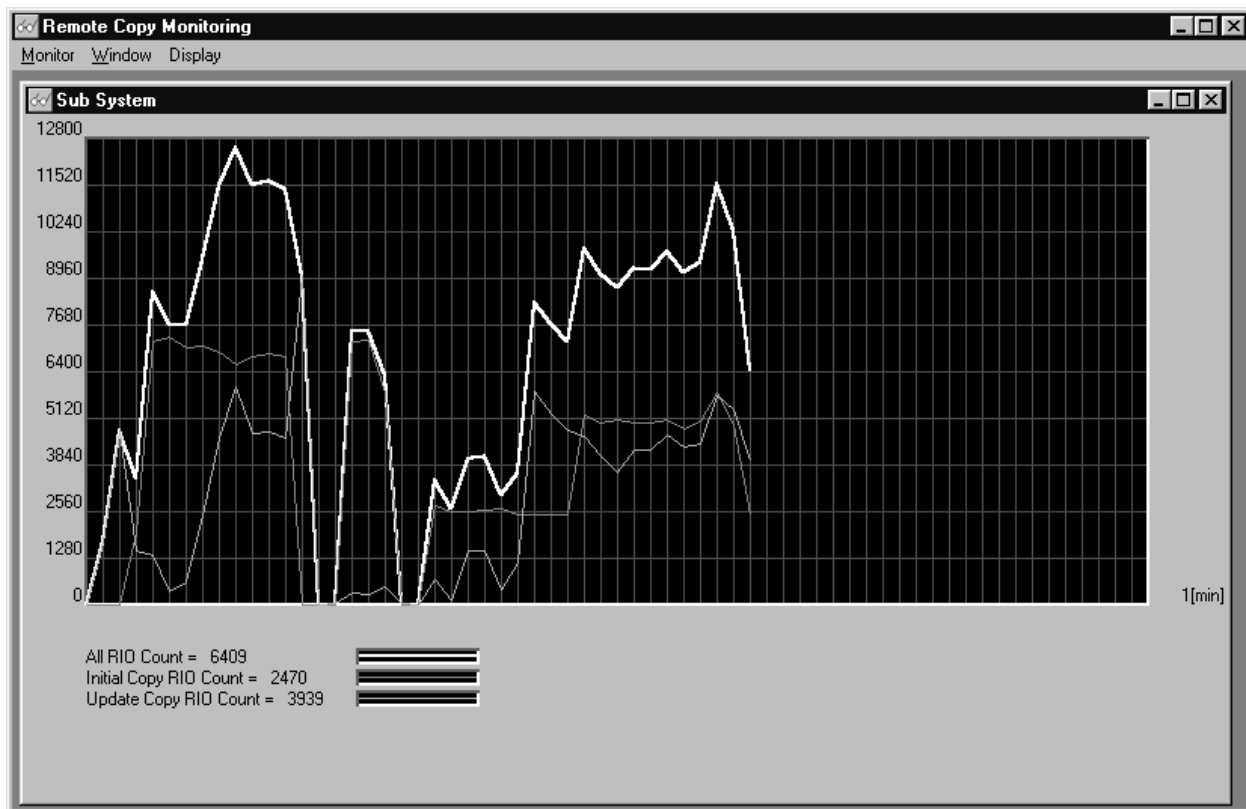

Figure 4.6 Remote Copy Monitoring Panel
The Remote Copy Monitoring panel (see Figure 4.6) displays the user-selected remote copy I/O statistics for either all LDEVs or the selected LDEVs in the connected 9900 subsystem. The Remote Copy Monitoring panel is accessed from the HORC Main Control panel (**Usage...** button). Remote copy monitoring is available to all Remote Console users.
2. On the HORC Main Control panel, select the **Usage...** button to open the Remote Copy Monitoring panel (refer to Figure 4.6).